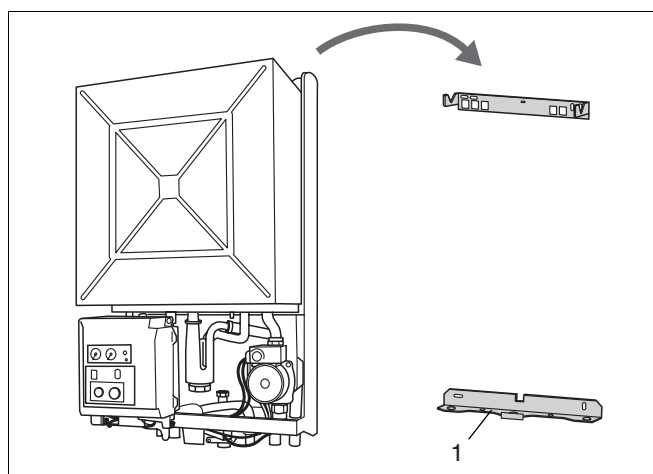

Fig. 5 Installation
- Attach the manifold assembly to the wall (see fig. 5, item 1).
- Hang the condensing gas boiler onto the wall bracket (fig. 5).